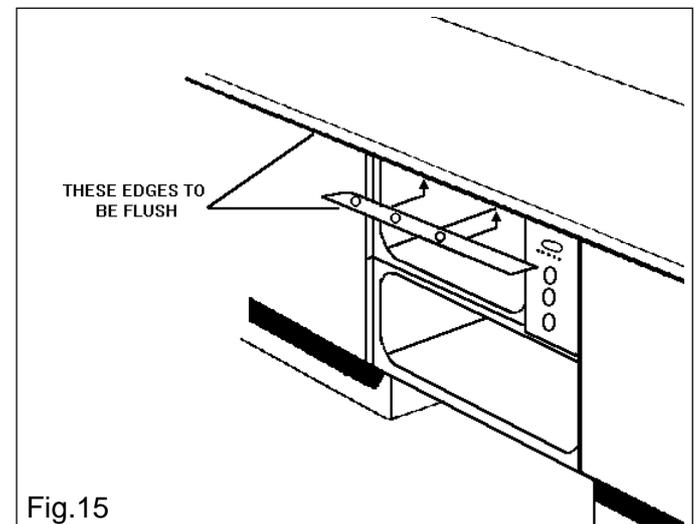

Fig.15
- Place the top trim flush with the edge of the worksurface, with the cork spacers upover (see Fig.15) and screw into position using the screws supplied with the appliance.